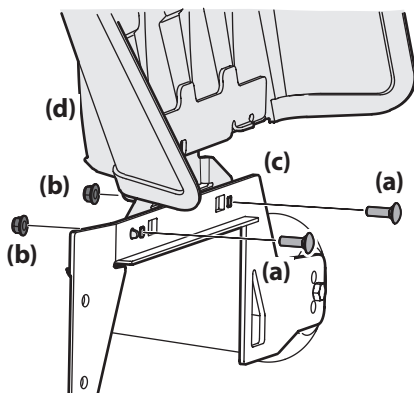

Figure 2-5
1. Remove the carriage screws (a) and flange lock nuts (b) installed on the mounting bracket (c) on the deck. See Figure 2-5.
2. With the previously removed hardware (a & b), install the discharge chute assembly (d) on the deck as shown in Figure 2-5.